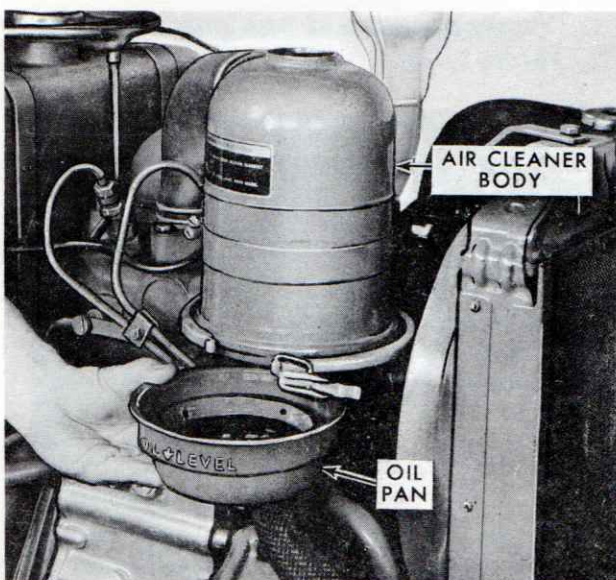

Figure 28
1. Release the oil pan retaining clip and remove the oil pan, Figure 28.
Cleaning the Air Cleaner Body: The oil bath cleaner, Figure 28, should be removed from the tractor, disassembled, and cleaned every 600 hours.